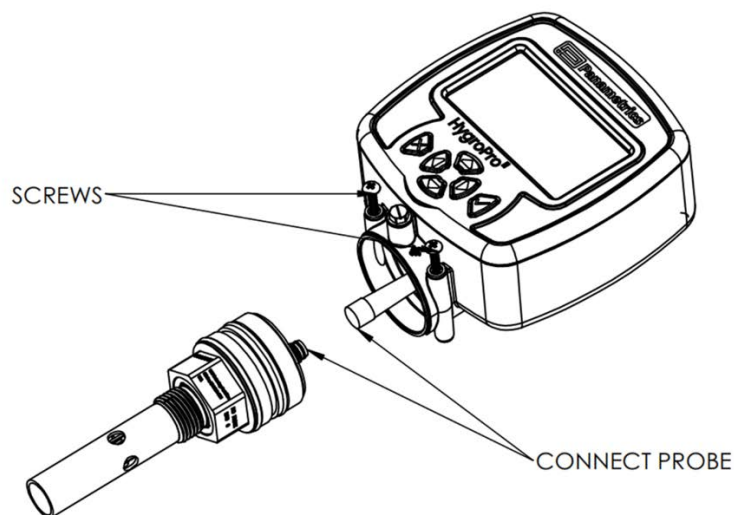

Figure 18: Removing the Hygro^{II} RTE probe from the transmitter
The Hygro^{II} RTE probe is easy to remove from the dismantled transmitter by loosening the two shoulder screws and disconnecting the internal M8 connector cable as shown in Figure 18 below. To remove the probe from the transmitter, refer to Figure 17 above and proceed as follows:
4. Disconnect the M8 connector of the internal yellow probe cable by turning the locknut at the top of the probe. Then, detach the probe (see Figure 18).